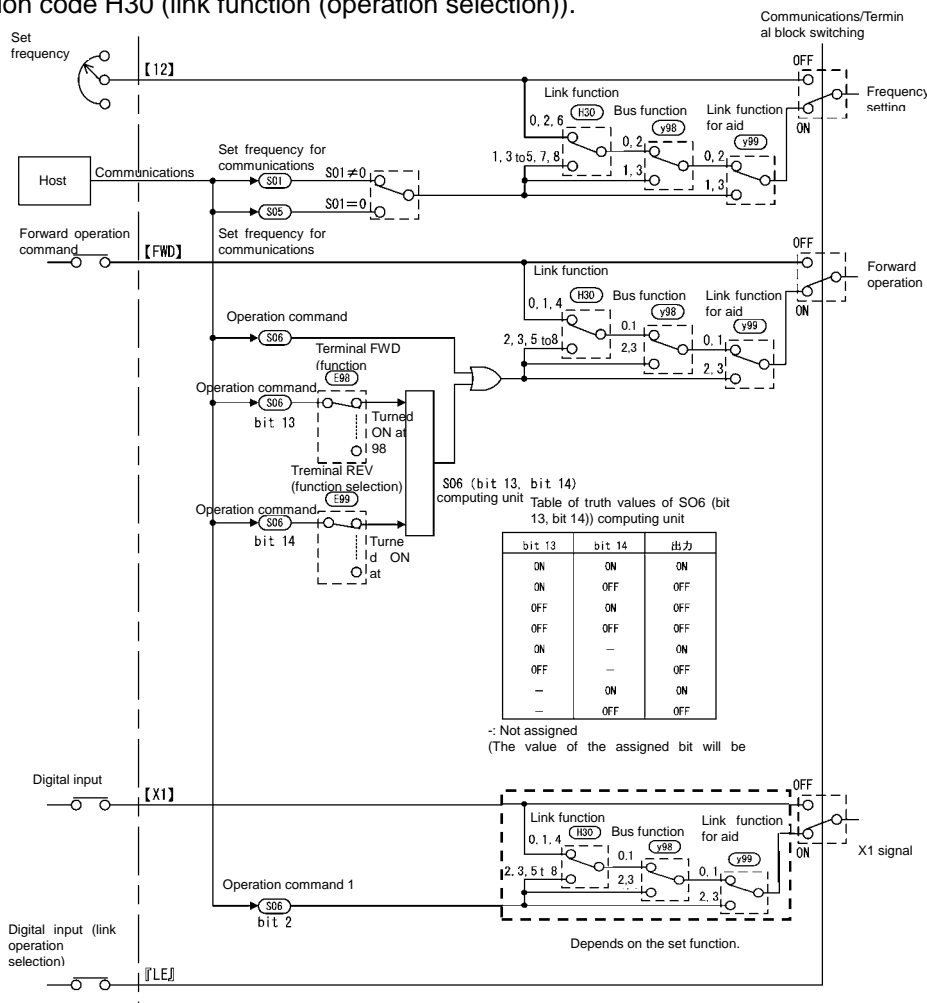

Figure 2.8 Operation command block diagram via communications
Figure 2.8 below shows a block diagram via communications for frequency setting and operation commands.
Even if digital input is set to link enable (LE), when the link becomes invalid ("LE" = OFF), the command system switches from communications to other settings including digital input signal. In short, the frequency setting, forward operation command, and X1 signal in Figure 2.8 switch from communications dedicated function codes S01, S05, and S06 to terminals [12], [FWD], and [X1], respectively.